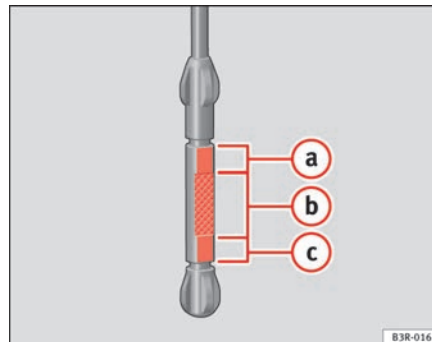

Fig. 165 Markings on oil dipstick
- Then pull it out once more and check the oil level ⇒ page 215, fig. 165. If the oil level is too low, add more engine oil ⇒ page 216.